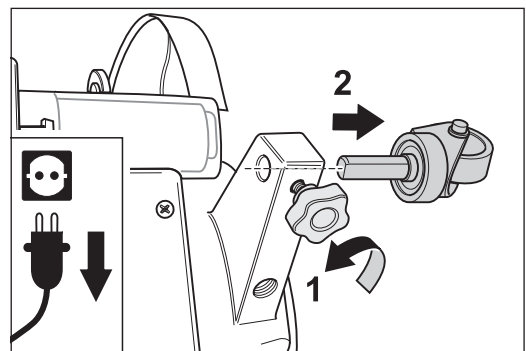

Fig. 80 Undoing the star grip screw (1) and removing the guide rollers from the fan housing (2).
- 3 Undo the star grip screws on the guide roller arms of the fan housing and pull the guide rollers out of the fan housing (fig. 80).